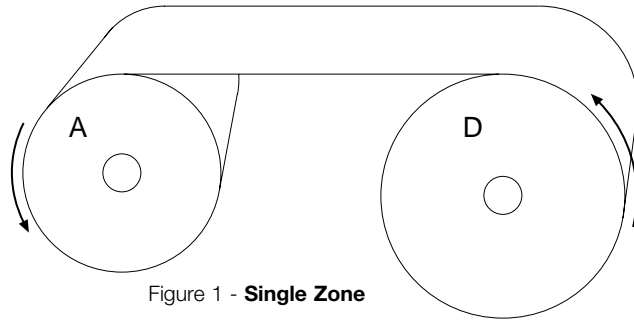

Figure 1 - **Single Zone**
Simple machines, such as rewinders or inspection machines, may have only one zone (see Fig. 1). The primary goal here is to control tension so that the rewound package is accurately wound. Typically, the winder (A) would be a simple line speed motor drive, with tension controlled by a brake system at the unwind (D). The method of brake control (i.e.: open or closed loop) would be determined by the accuracy demands of the application. For simple diameter compensation, an ultrasonic sensor measuring the diameter of the roll can produce satisfactory results. Greater accuracy may require closed loop feedback, such as from a dancer or load cell.